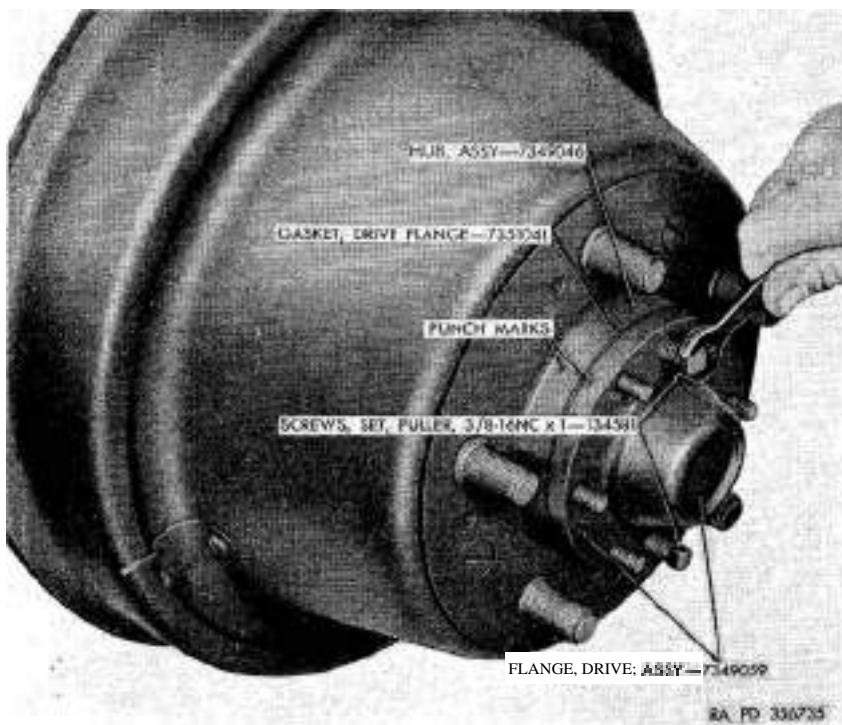

Figure 45. Removing drive flange assembly.
a. *Remove Drive Flange Assemblies (fig. 45).*
- (1) Apply punch marks on drive flange assemblies and hub assemblies with a center punch and hammer.